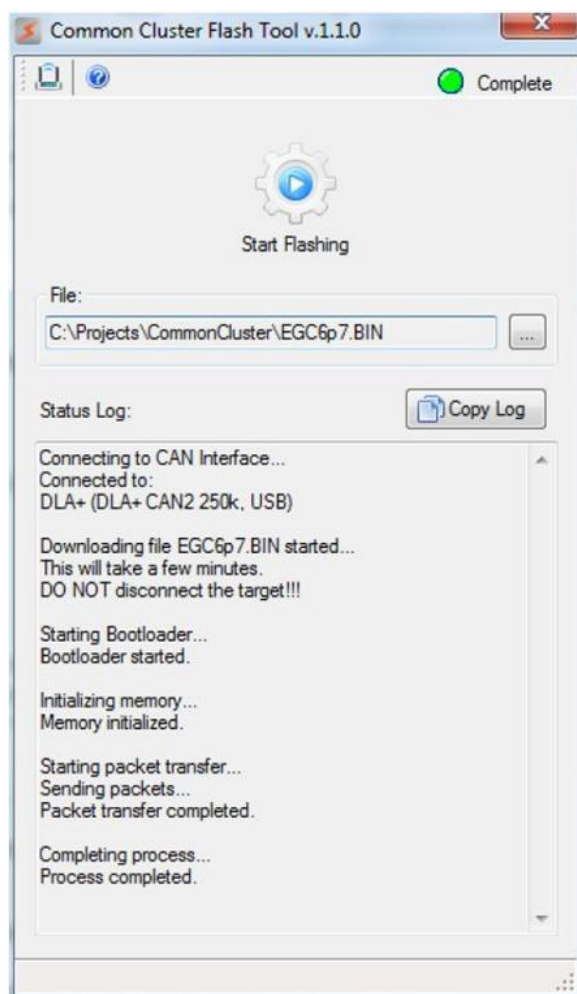

Figure 7 -Process Complete
5. Once the flash process is done, the "Status Indicator" will become steady green, and labeled as "Complete" (See Fig. 7)